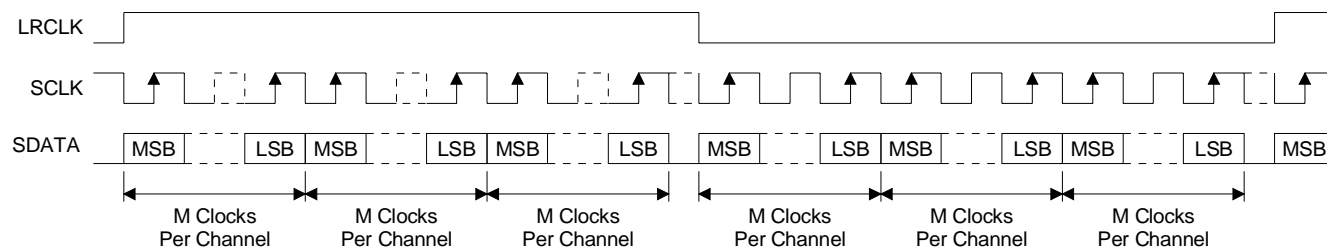

Figure 27. Multi-Channel Format (M == 20)
**Multi-Channel:** Figure 27 shows the multi-channel format. In this format up to 6 channels of audio are presented on one data line with 20 bits per channel. Channels 0, 2, and 4 are presented while the LR-CLK is high and channels 1, 3, 5 are presented while the LRCLK is low. Data is valid on the rising edge of SCLK and is presented most significant bit first.